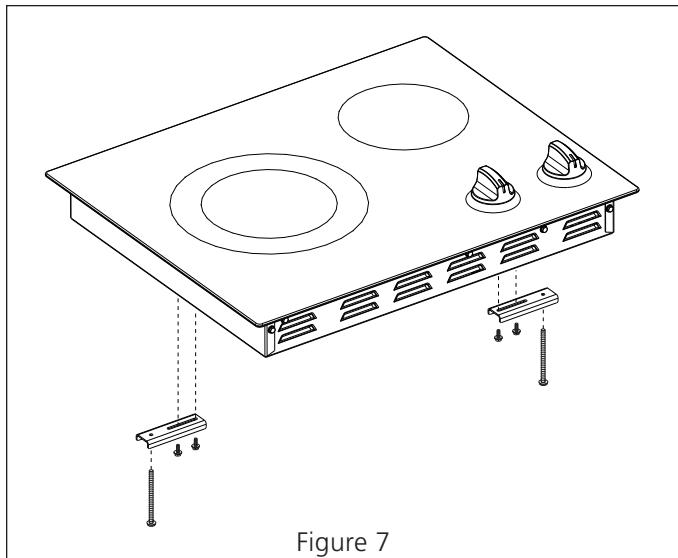

Figure 7
3. Install the retainer brackets. See Figure 7 & 8.
The retainer brackets MUST be installed, to meet local codes or, in their absence, with the National Electrical Code ANSI/NFPA No. 70—latest edition in the United States (see Figure 7 & 8).